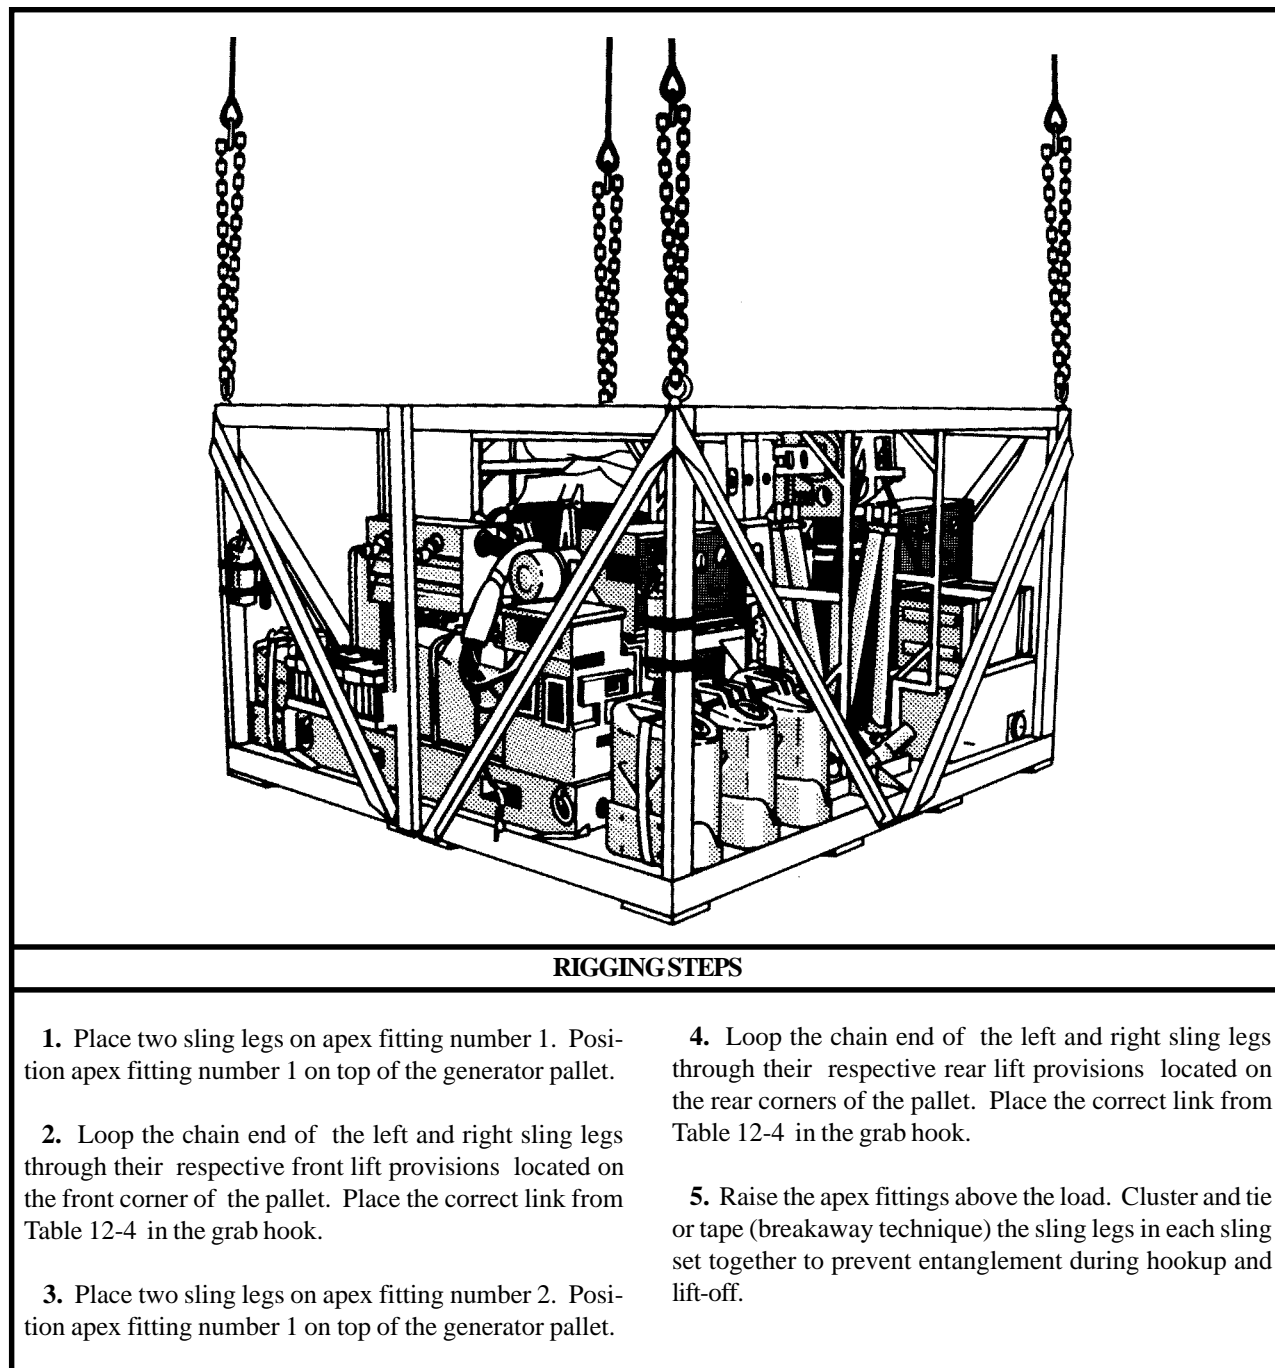

Figure 12-4. Lightweight Generator Frame Assembly
(2) **Rigging.** Rig the load according to the steps in Figure 12-4.